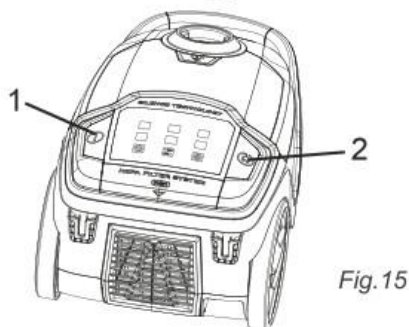

Fig. 15
1. Switch off the vacuum cleaner with the on/off switch (Fig. 15/1)
3. To retract the power cord, push the cord retracting button (Fig. 15/2).